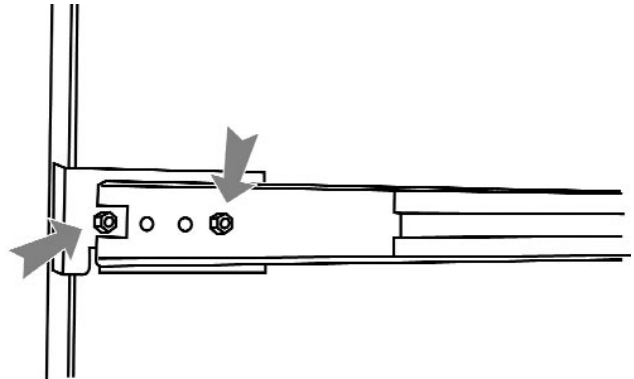

Figure 49 Attach (Short) Extended Brackets
Step 4. Attach left and right front (short) extended brackets to the outer rail using 2 x 8300045 M4 screws, 2 x 8300045 washers, and 2 x 8300044 nuts for each bracket (FIGURE 49).